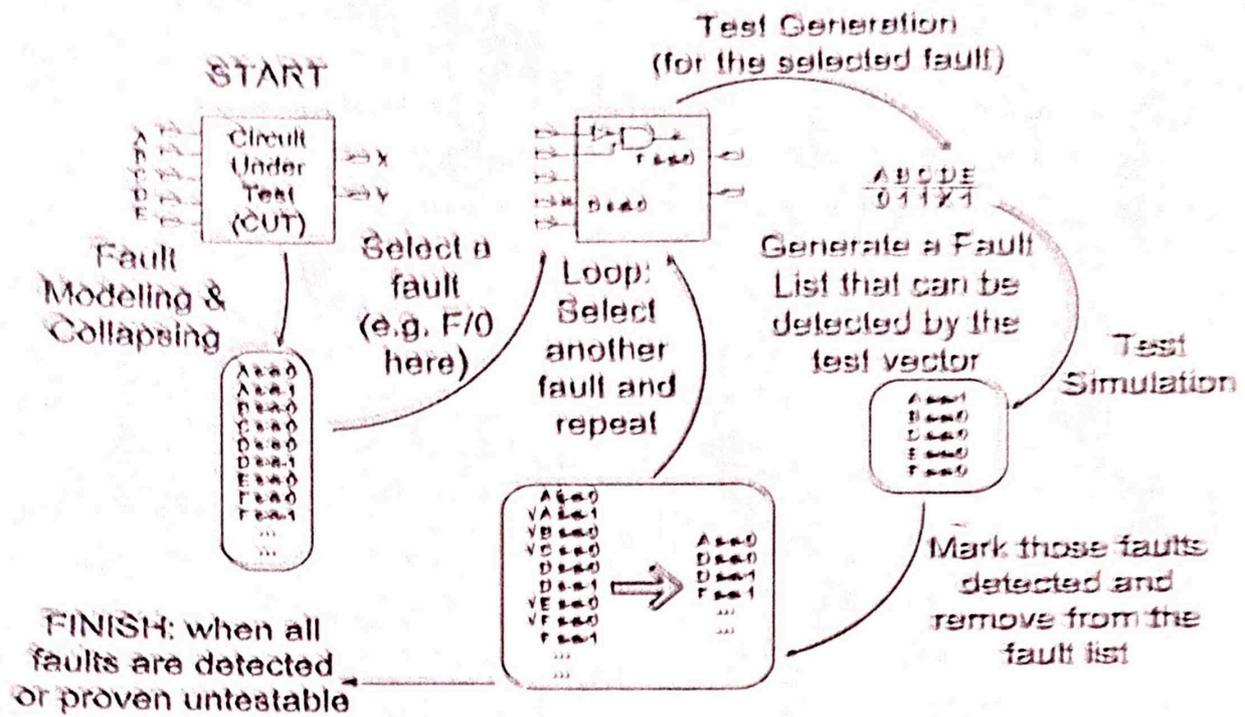

Figure 8-4 Fault analysis procedure
- The process of a stuck-at fault model testing is shown in Figure 8-4.